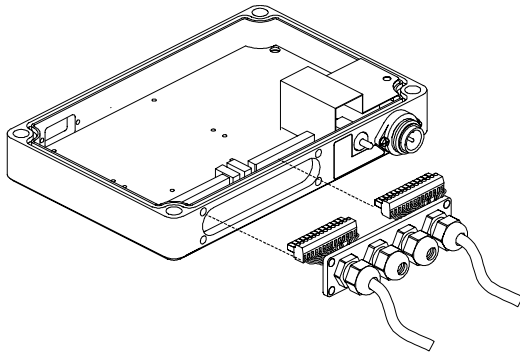

Figure 5 - MX4000 view
- 9) After inserting all the wires into the terminal block connectors, pass them through the glands panel hole and insert them into the base again (see Figure 5 and Figure 6).